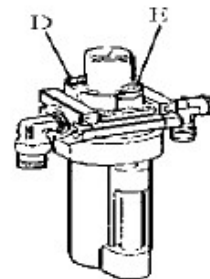

Fig.9
Check oil level in Oil Fog Maker, please be filled with SAE30# oil if need. Unscrew with hex wrench (E). Based on connection of compressed air, first to tread Jaws open and close Pedal or Turntable Rotation Pedal 5-6 times, and then check whether oil in Oil Fog Maker drops down a drip of oil. For continuous operation, tread twice every time, drop down a drip of oil, and otherwise adjust the screw (D) that controlled oil enters with minus screwdriver. (Fig.9)